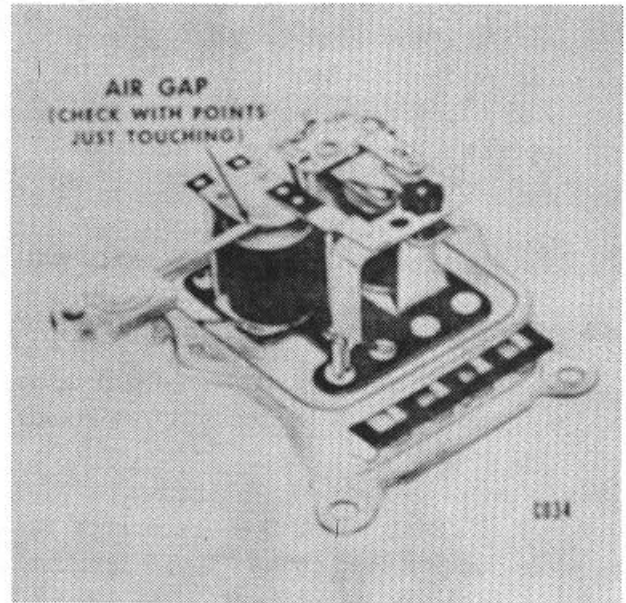

Figure 25.
**NOTE:** Three checks are required on the field relay: (1) air gap, (2) point opening, and (3) closing voltage.
1. Air Gap: With the regulator removed from the vehicle, check the air gap with the points just touching. (Fig. 25) If adjustment is necessary, carefully bend the flat contact support spring.